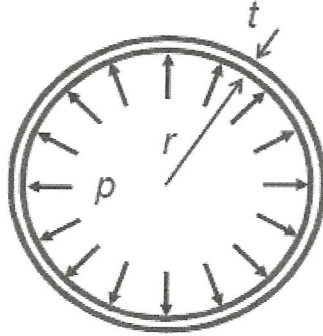

Figure Q5(a)
- Q5** (a) A spherical vessel as shown in Figure Q5(a) 3 meter diameter is subjected to an internal pressure of 1.5 N/mm^2 . Find the thickness of the vessel required if the maximum stress is not to exceed 90 MPa. (4 marks)